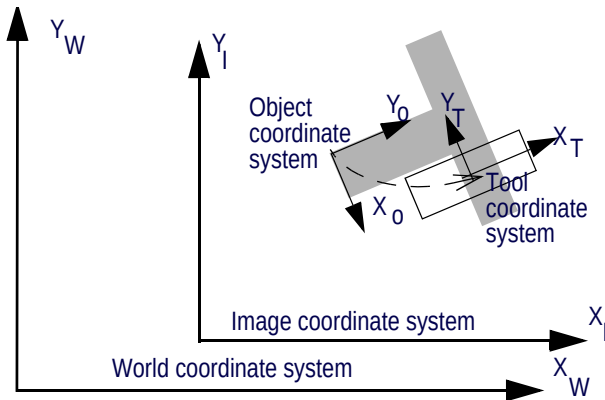

Figure 234 Model-Based Mode: Relationship between Tool and Object Coordinate Systems
- **Positioning coordinate system:** The Model-based mode is designed for the inspection of randomly oriented parts. The coordinate system used to position the tool is the Object coordinate system defined in the Model, as shown in Figure 234.